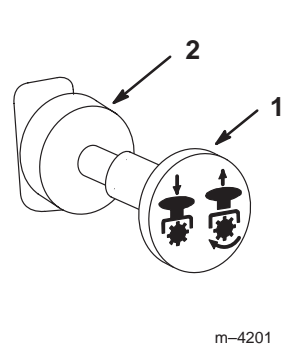

Figure 14
3. Move the PTO (power take off) switch to Off (Fig. 14).